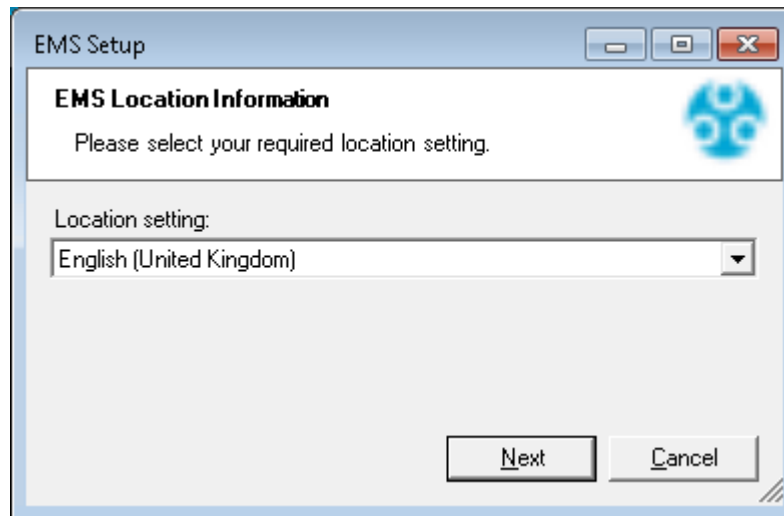

Figure 61
- The **EMS Setup – EMS Location Information** window is displayed. See Figure 61 below: